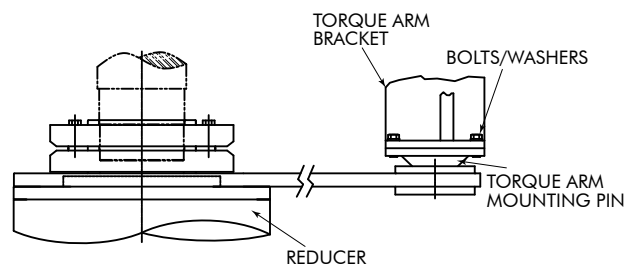

Figure 2.2c Mounting of Torque Arm Pins to Torque Arm Bracket
4. Tighten the bolts with washers, shimming if necessary. Reference Table 2 (Page 21) for recommended bolt torques. Reference Figure 2.2c.